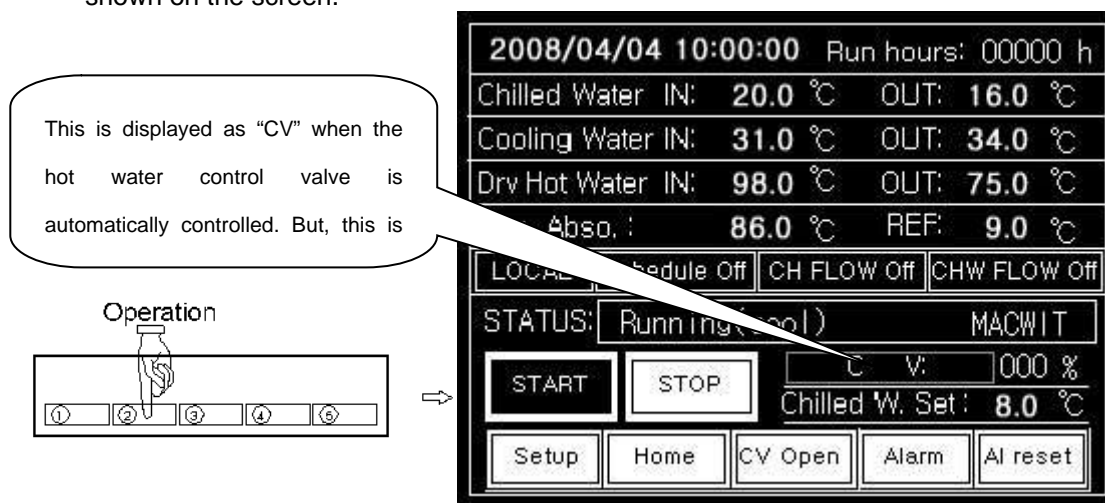

Fig. 5-4 Cooling Status Picture
If you touch ②「Operation」 button at the lower end of screen, then Chilled Water In/Out temperature in cooling status picture will be shown if you are correct. (See Fig.5-4)
One of them is displayed as Chilled W.Set in cooling status picture, which is shown if you touch ②「Operation」 button at the lower end of screen. (See Fig.5-4)
The cooling capacity of Absorption Machine is almost proportional to the opening rate of hot water control valve, and the machine performs automatic control of the valve to meet cooling load. The opening rate of the control valve is displayed in the screen of cooling status picture. (See Fig.5-4. "CV:xx%" stands for the current opening rate under automatic control, and "CVSM:xx%" stands for the current opening rate by manual input.)